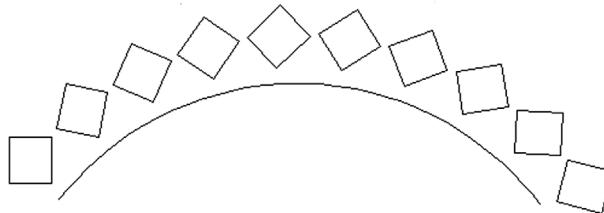

FIGURE 8.20 Path Array completed.
**Step 5.** You have essentially created the basic path array, but you can do a tremendous amount of modification to this basic layout. The easiest way to modify it is via the Ribbon. Under the Items: tab you have the most basic of the “mods,” such as total number of items and the distance between them. Also note how you can alter the path array via dynamic movement of the grips. Be sure to keep the array associative, as with the previous examples. The completed array is seen in Fig. 8.20.